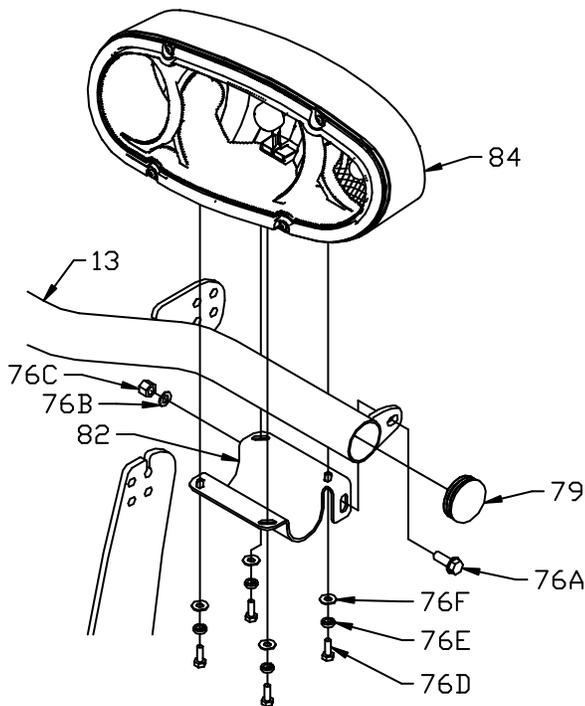

Figure 11. Headlight Mounting Assembly G10115
29. Check that End Cap (79) is properly inserted into Light Bar (13).
30. Place Driver Side Headlight Bracket (82) below Light Bar (13) and secure with one 3/8"-16 X 1" Hex Head Shoulder Bolt (76A), one 3/8" Flat Washer (76B), and one 3/8" Nylon Lock Nut (76C).
31. Fasten Driver Side Headlight (84) to Driver Side Headlight Bracket (82) using four 1/4"-20 X 3/4" Hex Head Bolts (76D), four 1/4" Split Lock Washers (76E), and four 1/4" Flat Washers (76F). Leave fasteners finger tight until Headlight orientation has been completed. See Figure 11 for proper fastener placement.
32. Repeat Steps 28 through 30 for Passenger Side Headlight Bracket (83) and Passenger Side Headlight (85).